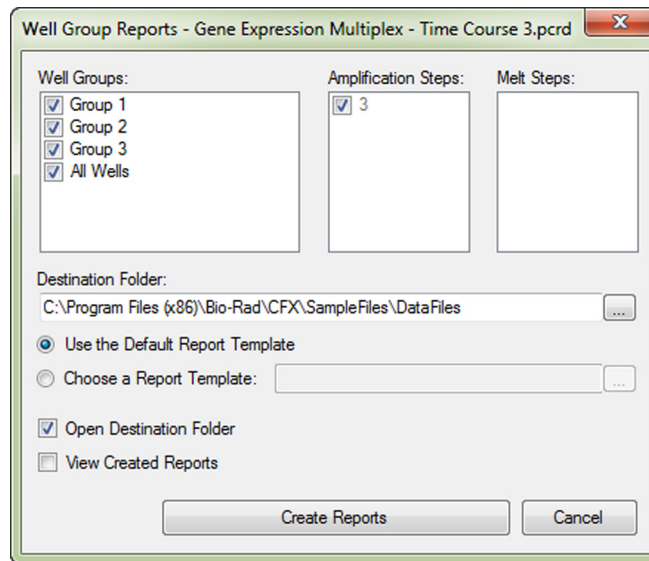

Figure 78. Well Group Reports window.
2. From the **Well Groups Reports** window (Figure 78) the Well Groups, Amplification Steps, and Melt Steps to be included in the reports can be specified by checking the appropriate box.